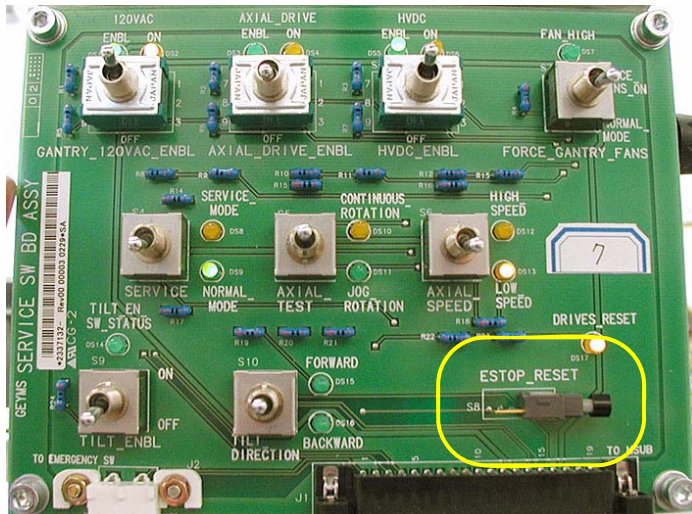

Figure 5-4 Service Switch Panel
- 5.) Push the Service Switch Panel reset button. (See Figure 5-4.)